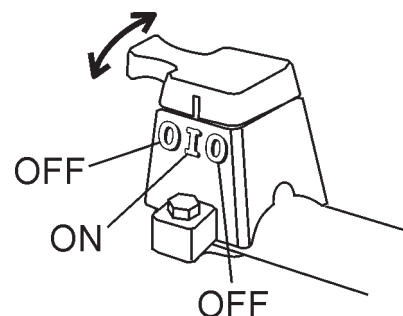

Figure 23. Engine Shutdown Switch (Handlebar)
2. Ensure the engine **Shutdown switch** on the handlebar and the engine **ON/OFF switch** on the engine are both in the **OFF** position to avoid accidental starting. (Figures 23 and 24)
The Engine Stop Switch located on the handlebar (Figure 23) serves both as an **Emergency Engine Shut-Off** and as the **primary Shutdown switch**. This allows the operator to shutdown the saw safely away from moving parts.
6. Place the **Engine ON/OFF switches** (Figures 23 and 24) to the **ON** position.